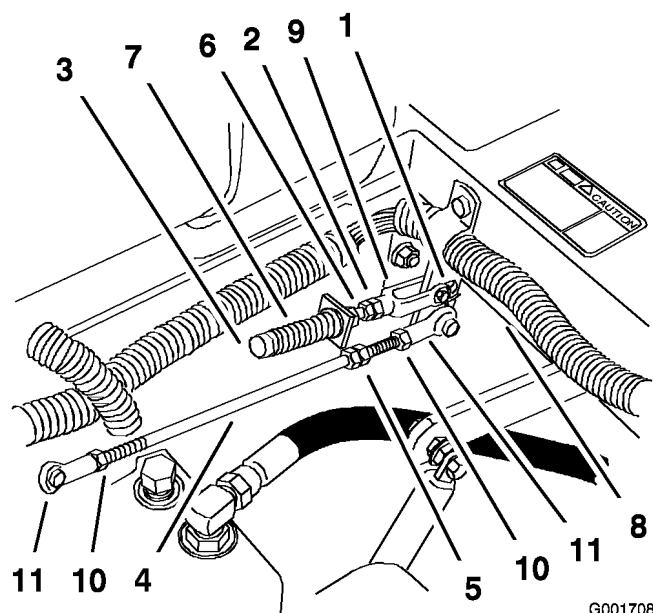

Figure 59
1. Loosen the locknuts at the ball joints on the pump control rod (Figure 59).
3. Adjust the pump rod length by rotating double nuts on rod, in the appropriate direction, until wheel is still or slightly creeps in reverse (Figure 59).
6. Tighten the locknuts at the ball joints (Figure 59).